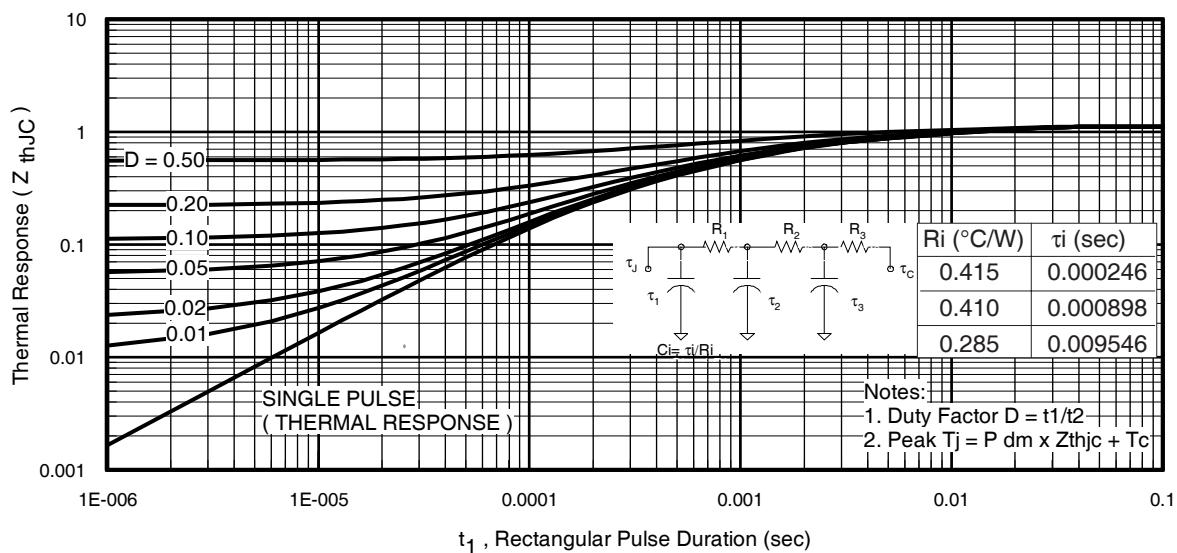
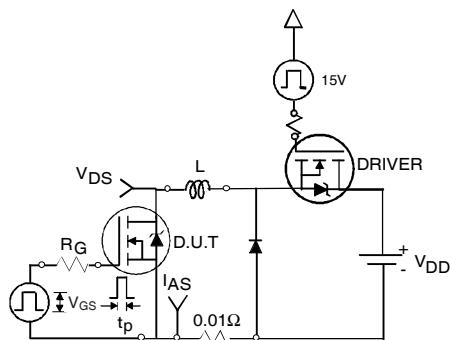

Fig 11. Maximum Effective Transient Thermal Impedance, Junction-to-Case
Fig 12a. Unclamped Inductive Test Circuit
- ① Repetitive rating; pulse width limited by max. junction temperature. (See fig. 11).
- ② Limited by $T_{J\text{max}}$, starting $T_J = 25^\circ\text{C}$, $L = 0.077\text{mH}$, $R_G = 25\Omega$, $I_{AS} = 51\text{A}$, $V_{GS} = 10V$. Part not recommended for use above this value.
- ③ $I_{SD} \leq 51\text{A}$, $di/dt \leq 260\text{A}/\mu\text{s}$, $V_{DD} \leq V_{(\text{BR})\text{DSS}}$, $T_J \leq 175^\circ\text{C}$.
- ④ Pulse width $\leq 1.0\text{ms}$; duty cycle $\leq 2\%$.
- ⑤ $C_{oss \text{ eff.}}$ is a fixed capacitance that gives the same charging time as C_{oss} while V_{DS} is rising from 0 to 80% V_{DSS} .
- ⑥ Limited by $T_{J\text{max}}$, see Fig.12a, 12b, 15, 16 for typical repetitive avalanche performance.
- ⑦ This value determined from sample failure population. 100% tested to this value in production.
- ⑧ This is applied to D²Pak, when mounted on 1" square PCB (FR-4 or G-10 Material). For recommended footprint and soldering techniques refer to application note #AN-994.
3. Equation below based on circuit and waveforms shown in Figures 12a, 12b.
- $Z_{thJC}(D, t_{av})$ = Transient thermal resistance, see figure 11)